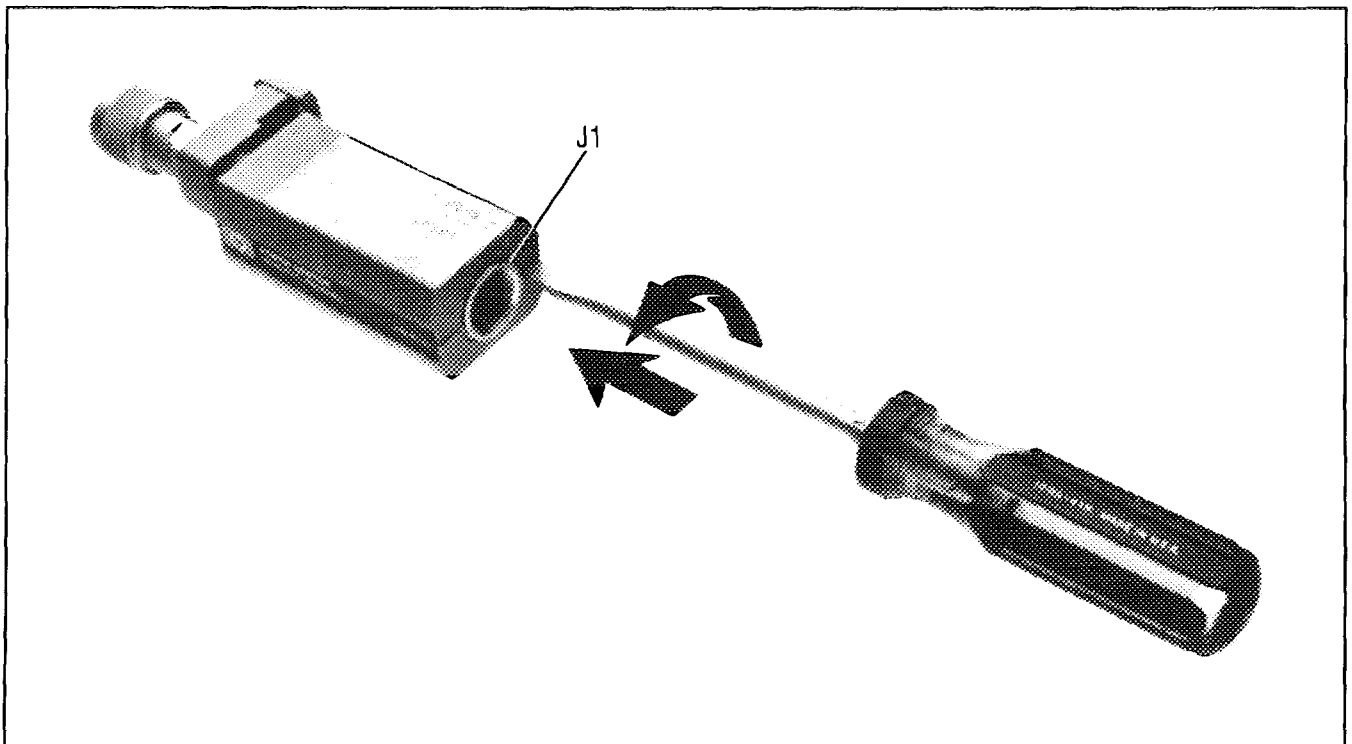

Figure 6. Removing Power Sensor Shell
a. At rear of Power Sensor, insert blade of small screwdriver between the plastic shells (Figure 6).